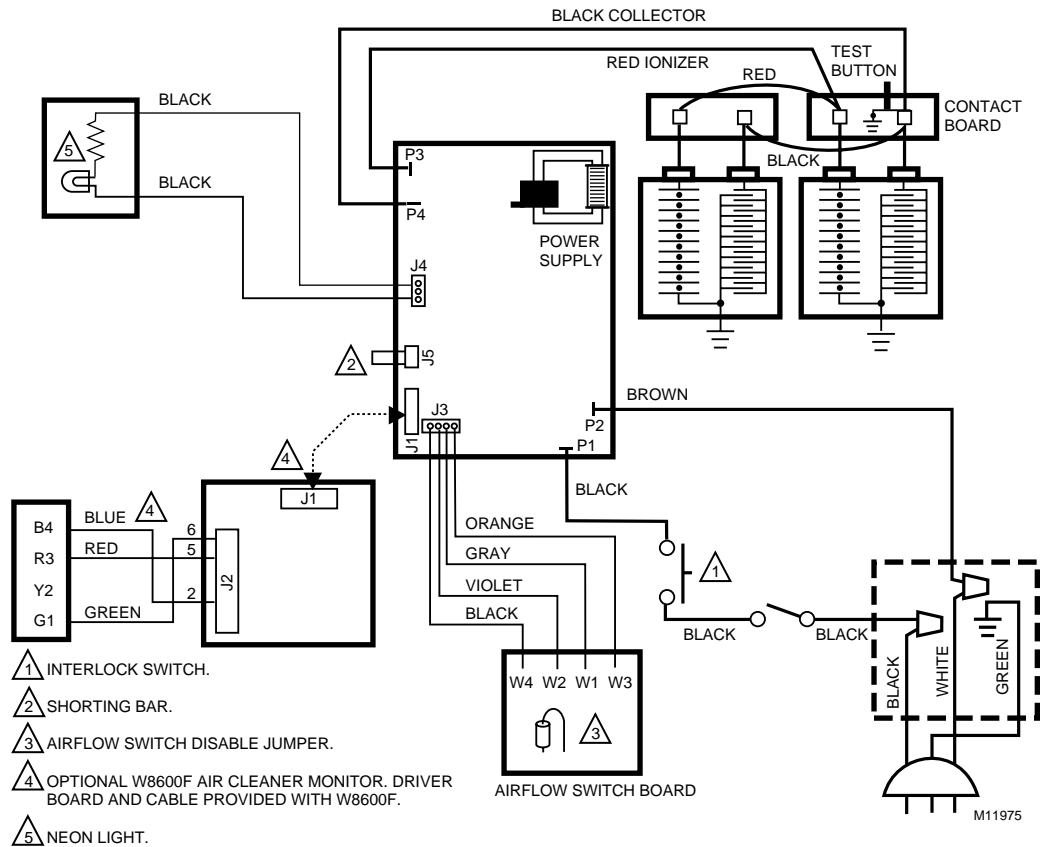

Fig. 18. Internal schematic for electronic air cleaner with W8600F.
- When the system fan comes on the Air Flow Switch (AFS) senses the negative pressure in the duct and turns the power supply on. If power to the air cleaner is controlled by another switch, such as a sail switch or fan timer board, the AFS can be disabled by cutting the jumper on the back of the AFS circuit board. See Fig. 18.
- ❑ Plug the electronic air cleaner directly into the correct voltage and frequency outlet. See Fig. 18 for internal schematic.